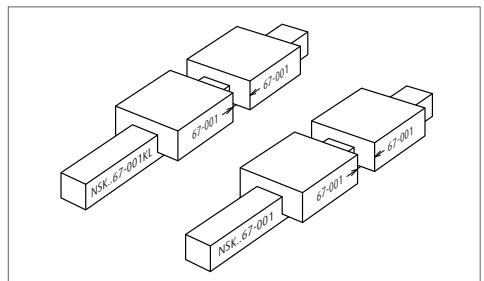

Fig. 10.30 When two rails have different reference number
- > When two or more rails of different reference number are used in a single set, the rails and slides have the same serial number. In this case, when slides are removed from the rail, it is unclear which rail each slide was previously installed on. When removing ball slides from the rail for an unavoidable reason (**Fig. 10.30**), sufficient precaution is required.